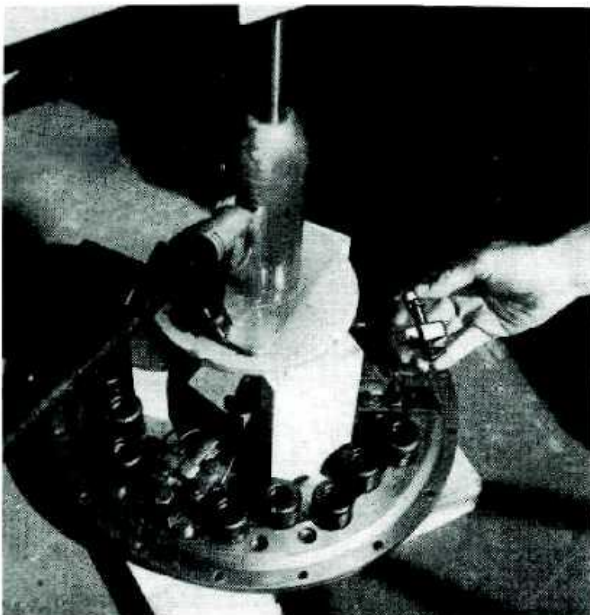

Fig. F.3 — Relieving Clutch Spring Pressure
5. Support the pressure plate on blocks and arrange three suitable blocks with either a hydraulic press or a jack placed under the tractor chassis to bear down evenly on the cover assembly. When the spring pressure is relieved, remove the previously marked pressure pads from the pressure plate. Note any shims under the pressure pads. Slowly release the jack pressure. (See Fig. F.3).